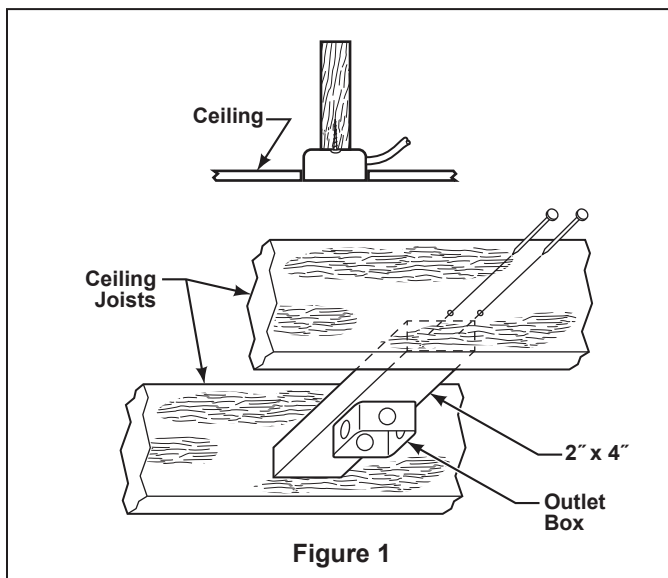

Figure 1
Your new ceiling fan will require a grounded electrical supply line of 120 volts AC, 60 Hz, 15 amp circuit. The outlet box must be securely anchored and capable of withstanding a load of at least 50 lbs. **Figure 1** depicts different structural configurations that may be used for mounting the outlet box.
7. While pulling up on the hanger ball, securely tighten the two 3/16-24 x 3/8" setscrews in the downrod support (Figure 1).